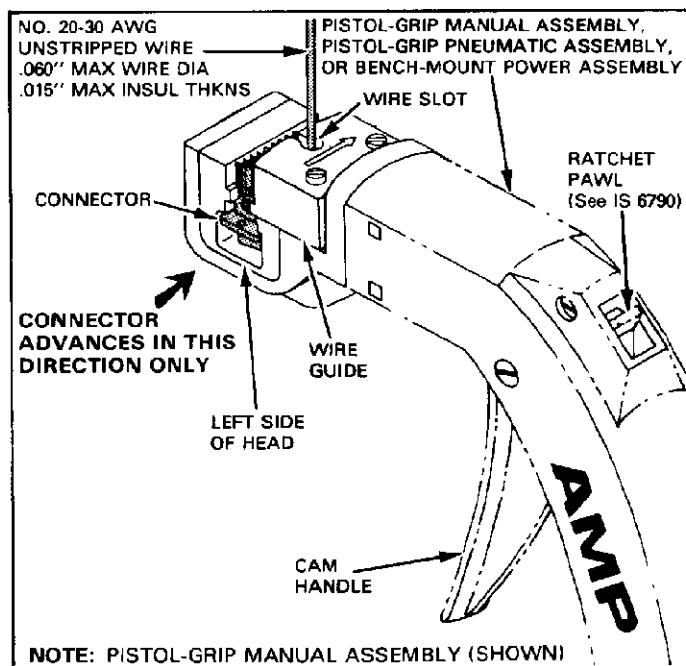

Fig. 5
4. TERMINATING PROCEDURE (Figure 5)